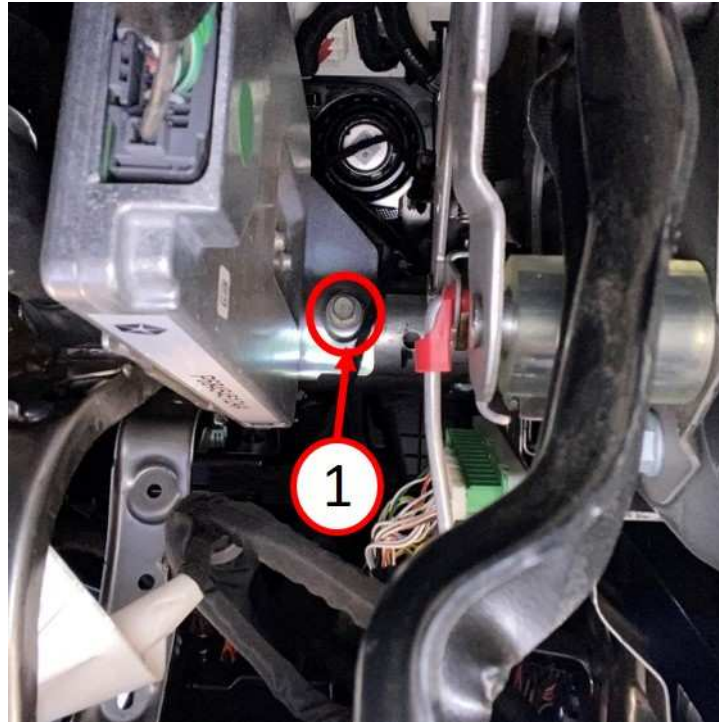

Fig. 2
1. If loose, but not broken - remove amplifier to IP Cross Car Beam (CCB) bolt (Fig. 2) and proceed to Step 4.